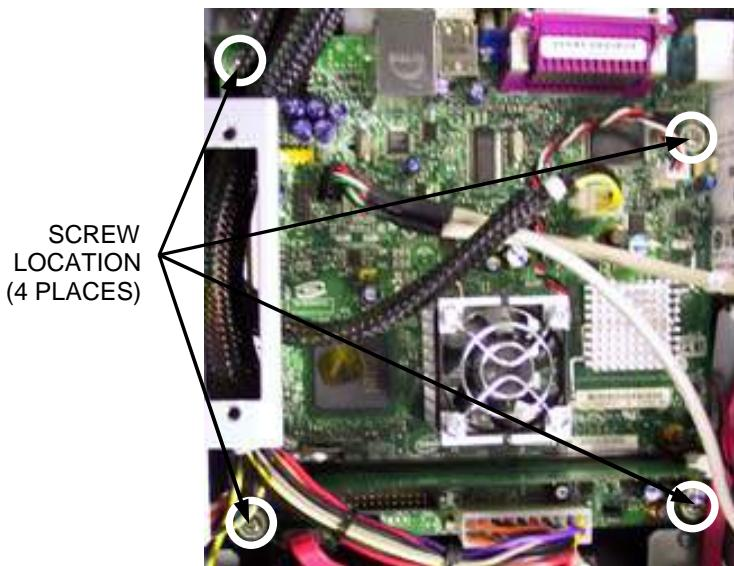

FIGURE 2 - LOCATION OF FOUR SCREWS SECURING RX MOTHERBOARD
4. Remove all motherboard connections, noting their positions, and unscrew the motherboard in 4 places (see Figure 2).
1. Slide the new motherboard into the system, making sure the screw holes on the motherboard line up with the mating holes on the bottom of the chassis. Secure the motherboard in place with 4 screws (see Figure 2).